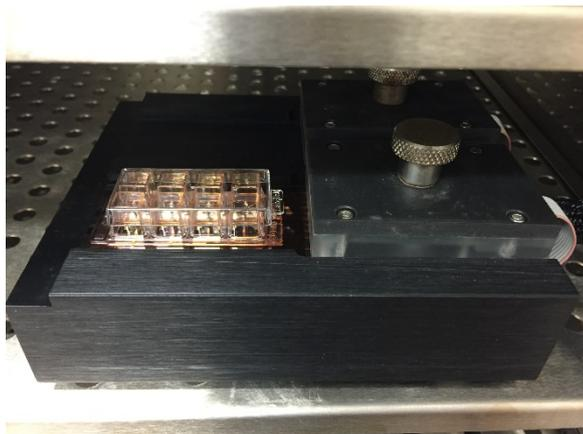

Figure 2. Cultureware in the ECIS array station within the incubator
- a. Place the cultureware in the ECIS Array station within the incubator (Figure 2). Start ECIS Z θ Software.